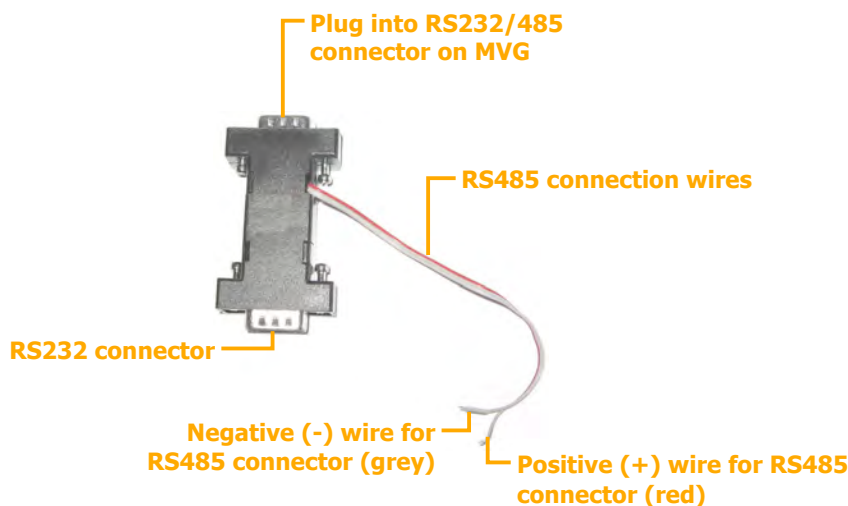

Figure 10: RS232/485 adapter
1. Use a wire connector to connect the wires to the RS485 connection wires of the adapter. Be sure to match the positive (+) wire of the controller cable to the positive (+ red) wire of the adapter, and the negative (-) wire of the controller cable to the negative (- grey) wire of the adapter (see figure 10).